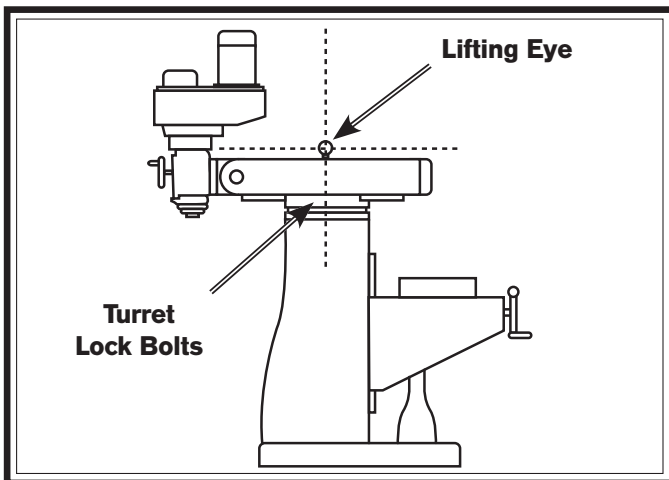

Figure 10. Ram and head position before moving.
1. Position ram and headstock so lifting eye is centered with the column as illustrated in **Figure 10** (refer to **Ram Movement on Page 31** and **Headstock Movement on Page 29** for detailed instructions).